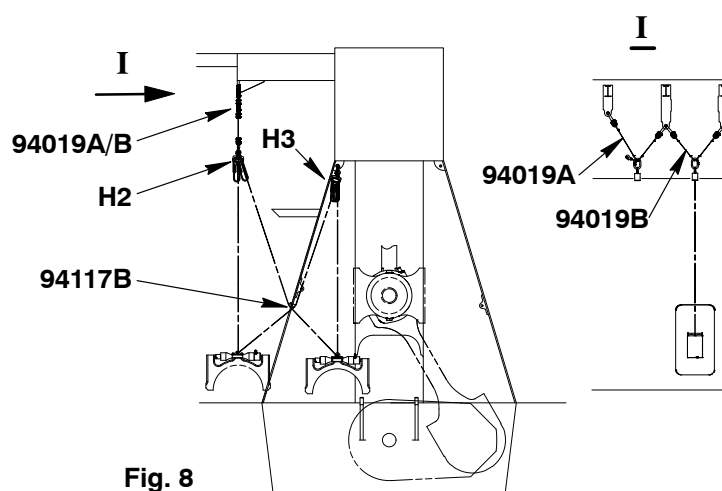

Fig. 8
- 7) Attach the chain (94019A/B, Fig. 8) to the chain block H2. Continue to move the bearing cover to the fuel side.